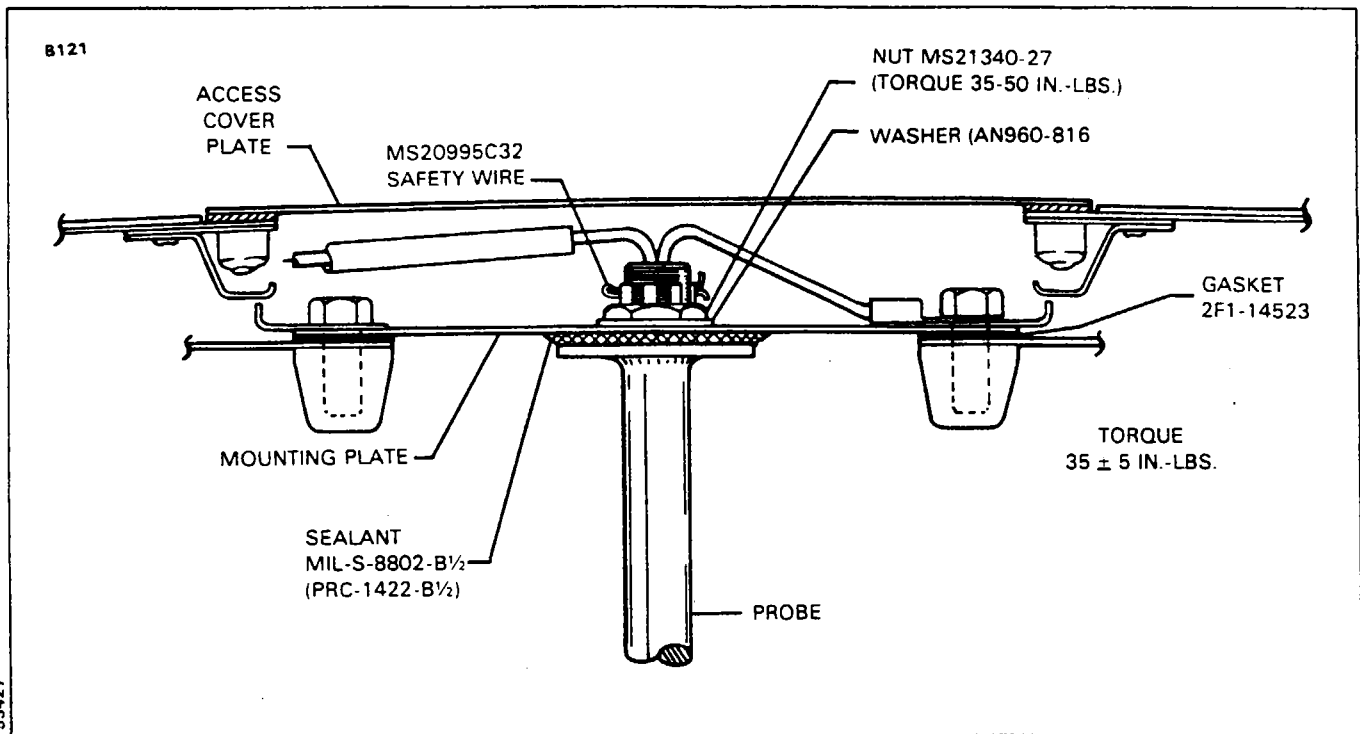

Figure 9-14. Low Fuel Warning Sender Sealing
9-64. **LOW FUEL WARNING SENDER SEALING.** (Refer to Figure 9-14.) The following instructions and illustration explain the recommended procedures for sealing the low fuel warning probe to prevent any possible fuel leakage:
- e. Assemble the probe to the plate as shown in Figure 9-14, securing the probe in place with the washer and plain nut. Torque the nut 35-50 inch-pounds and safety with MS20995C32 wire.